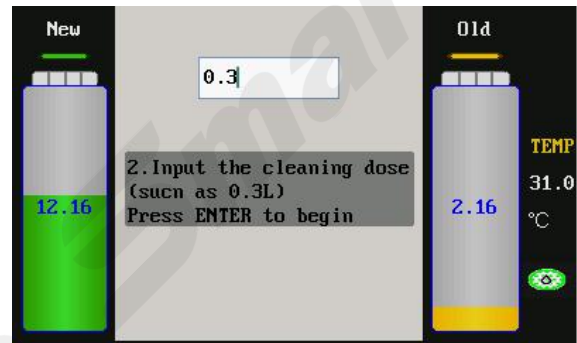

Fig.40
- 12) According to the prompts on the interface, load a certain amount of detergent to a standard measuring cup, and then press OK key to continue. The interface is as shown in Fig.40.